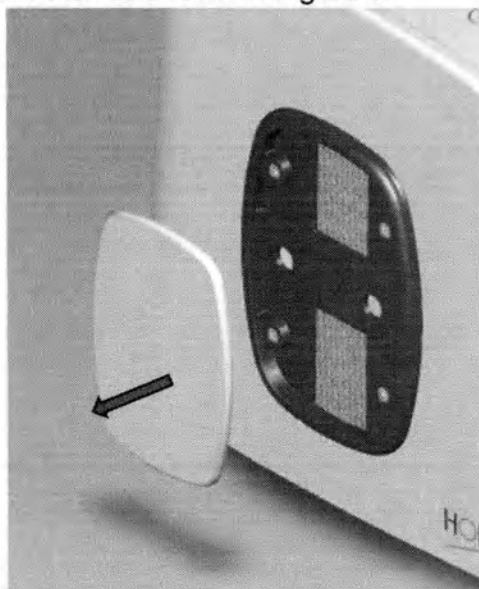

Figure 6: Removal of Filter output cover
1. Remove the filter output cover by pulling up the cover. Remove the cover of the filter output from the Concentrator as shown in Figure 6.